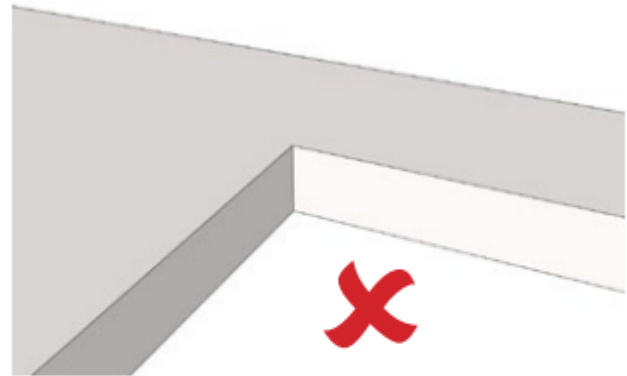
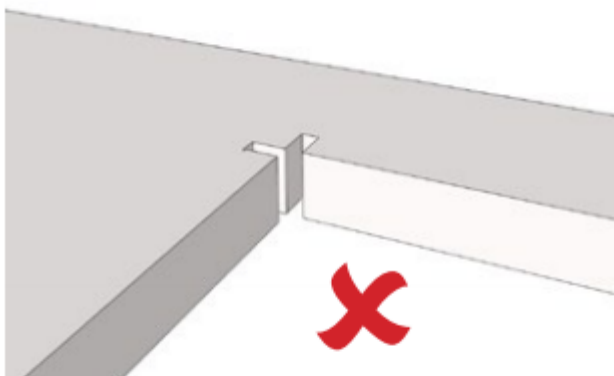

Figure 2
Figure 3
- Do not square cut (Figure 2) or cross-cut (Figure 3) corners.